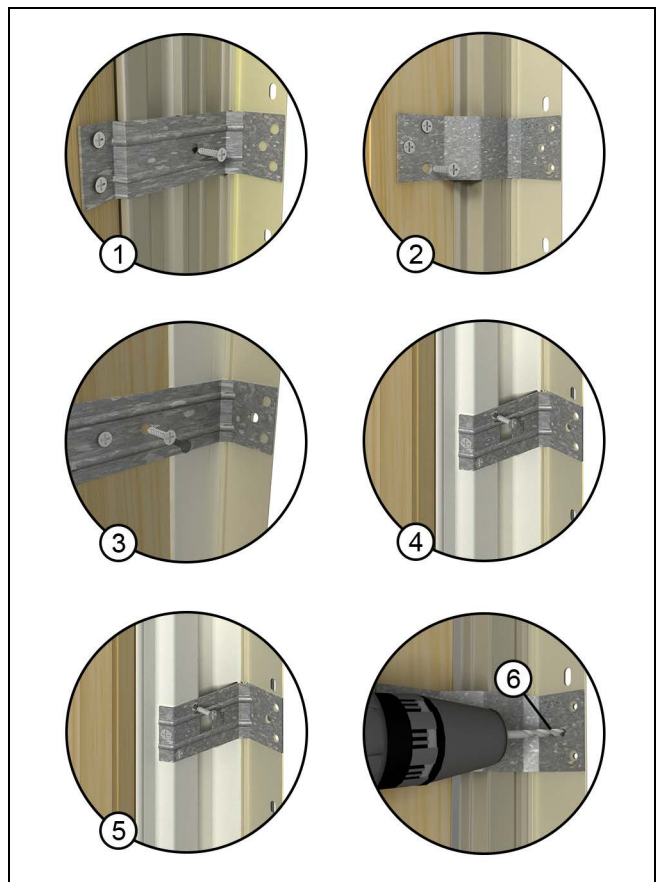

Figure 3
3. On Round Top Double Hung units, attach 5/8" X 3 1/2" filler blocks to the sill prior to attachment of installation clips. Attach the blocks by first placing a 5/16" (8) bead of construction adhesive to the block. Fasten the blocks to the sill using #8 x1 1/4" screws. When using installation and mull clips with nailing fin, use the screw holes in the clip as a guide and drill through the nailing fin with a 1/8" (3) drill bit. This will give you the location of the screw holes when you fasten the unit to the rough opening. See Figure 3.